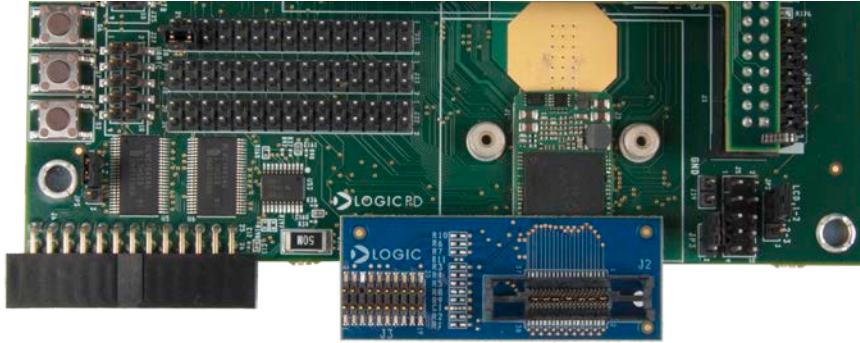
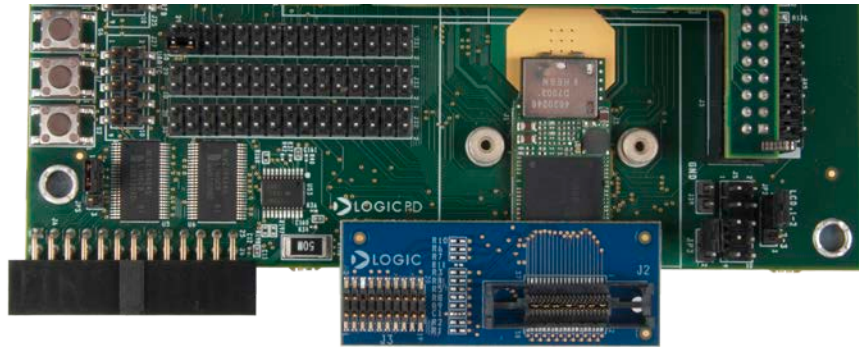

Figure 9.3: ETM Adapter Board Connected to DM3730 Torpedo SOM
Figure 9.4: ETM Adapter Board Connected to DM3730 Torpedo + Wireless SOM
4. Press straight down on the ETM adapter board directly over the connectors to mate the two boards. See Figure 9.3 for the final position of the connected ETM adapter board to the DM3730 Torpedo SOM. See Figure 9.4 for the final position of the connected ETM adapter board to the DM3730 Torpedo + Wireless SOM.